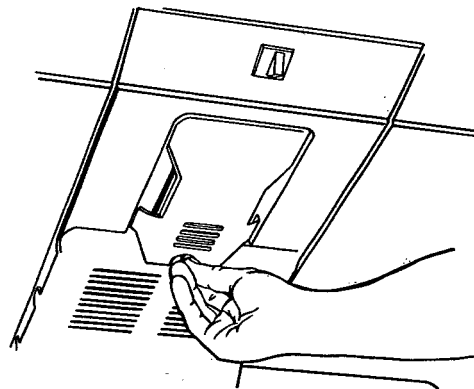

Figure 39
- g. Snap light cover back in place and return screw back to center back of light cover. See Figure 39.